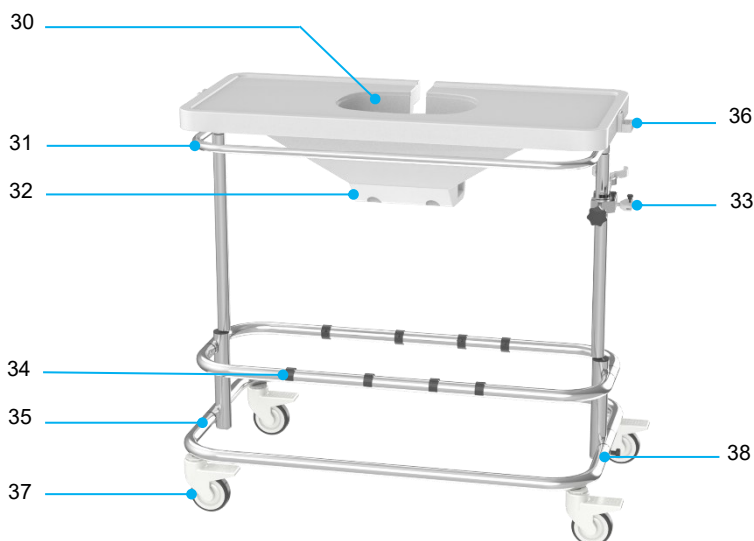

Figure 7 Trolley
The Thermo Unit and the Pump Unit are mounted on a trolley (see Figure 7). The trolley is equipped with caster wheels with brakes and a push bar to allow for in-hospital transport.
- Set the trolley in the correct position and apply the brakes on the caster wheels (Figure 7, item 35).
- Place the kidney reservoir in the cavity of the Kidney Assist table (Figure 7, item 30).
- Place the pressure sensor in the holders at the side of the tabletop (Figure 7, item 36).
- Place the oxygenator in the holder of the trolley (Figure 7, item 37) by pressing them into the clamp, see (Figure 9).